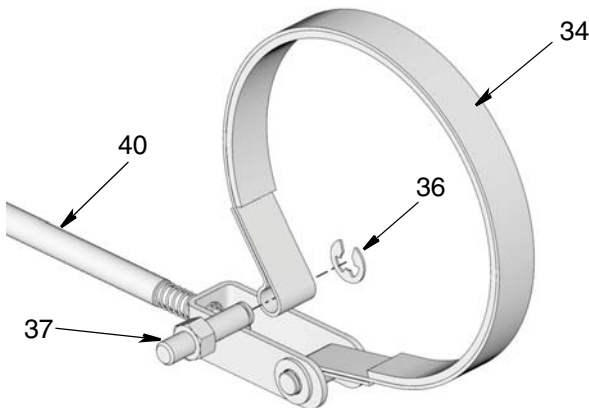

FIG. 15
10. Rotate entire brake assembly 180° (FIG. 15).
11. Install band (34) around brake hub (12).
12. Install anchor pin (37) through (34) making sure clip end is in position shown in FIG. 15.
13. Reinstall clip (36) (FIG. 15).